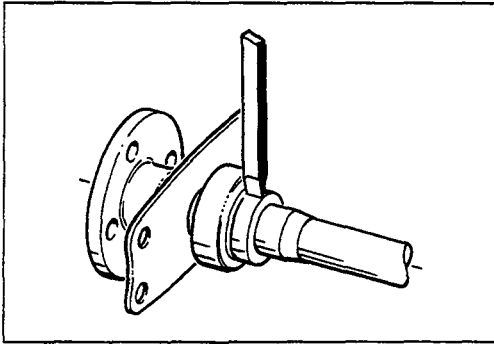

Figure 1
5. On M75 passenger car axles, a 35 mm I.D. X 72 mm outer diameter ball bearing and inboard oil seal is used. This seal is located in the tube flange and the bearing gas greased seals on both sides. To remove the bearing, chisel the inner retainer as described in 4 and press off the bearing. (Fig. 1).
7. Chisel the retainer ring as shown in Fig. 1 and then press the bearing from the shaft in a suitable hydraulic press.